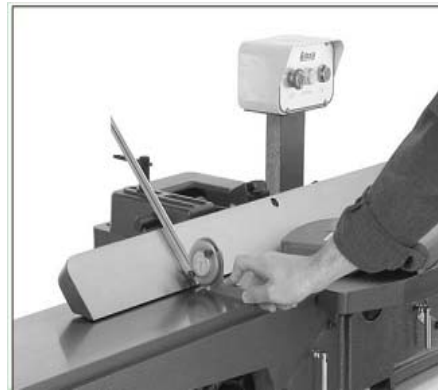

Figure 18
1. Using a sliding bevel adjusted to 135° , adjust the fence to the 135° (45° inward) position. as shown in Fig. 18